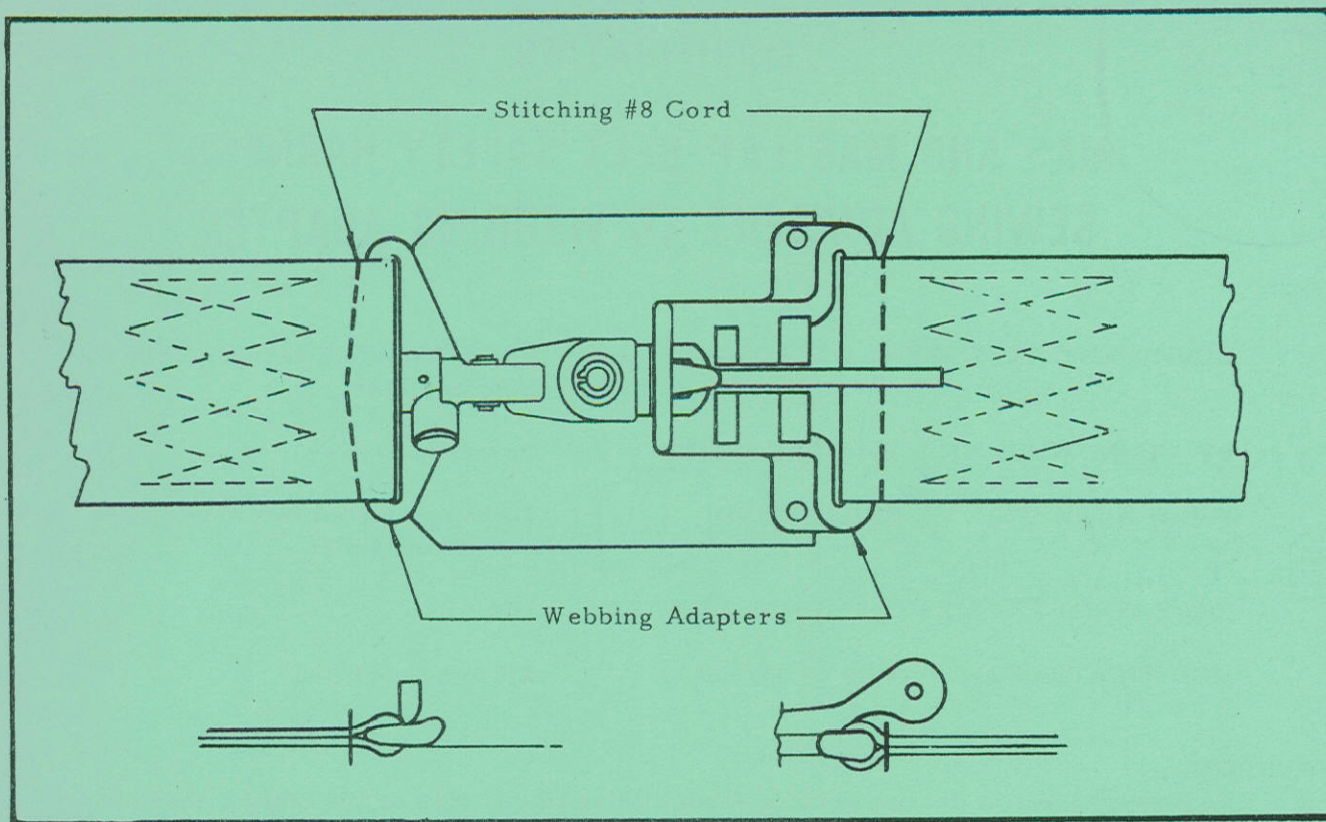

Figure 1
- (b) To prevent the webbing from slipping all MA5 and MA6 lap belts incorporating the soft green dacron webbing are to be modified by adding a row of stitching as close as possible to the webbing adapters on the latch assembly, see Figure 1.
- (1) Use two needles one on each end of the linen cord.
- (2) Start the stitching approximately 1/8 of an inch from one side. Pass the first needle down through both thicknesses of webbing and draw the #8 cord through approximately half its length. Ensure that sufficient cord is used to complete the sewing. Next, sewing 4 stitches to the inch, pass one needle up and one needle down through the same holes. Stitches are to be pulled tight to add a stiffening effect. Sew across the entire width of the lap belt.
- (3) Finish off by passing each needle through one thickness of webbing so that the #8 cord ends, come out between the two layers of webbing. Tightly tie the ends with a square knot so that when cut the free ends are concealed between the layers of webbing.